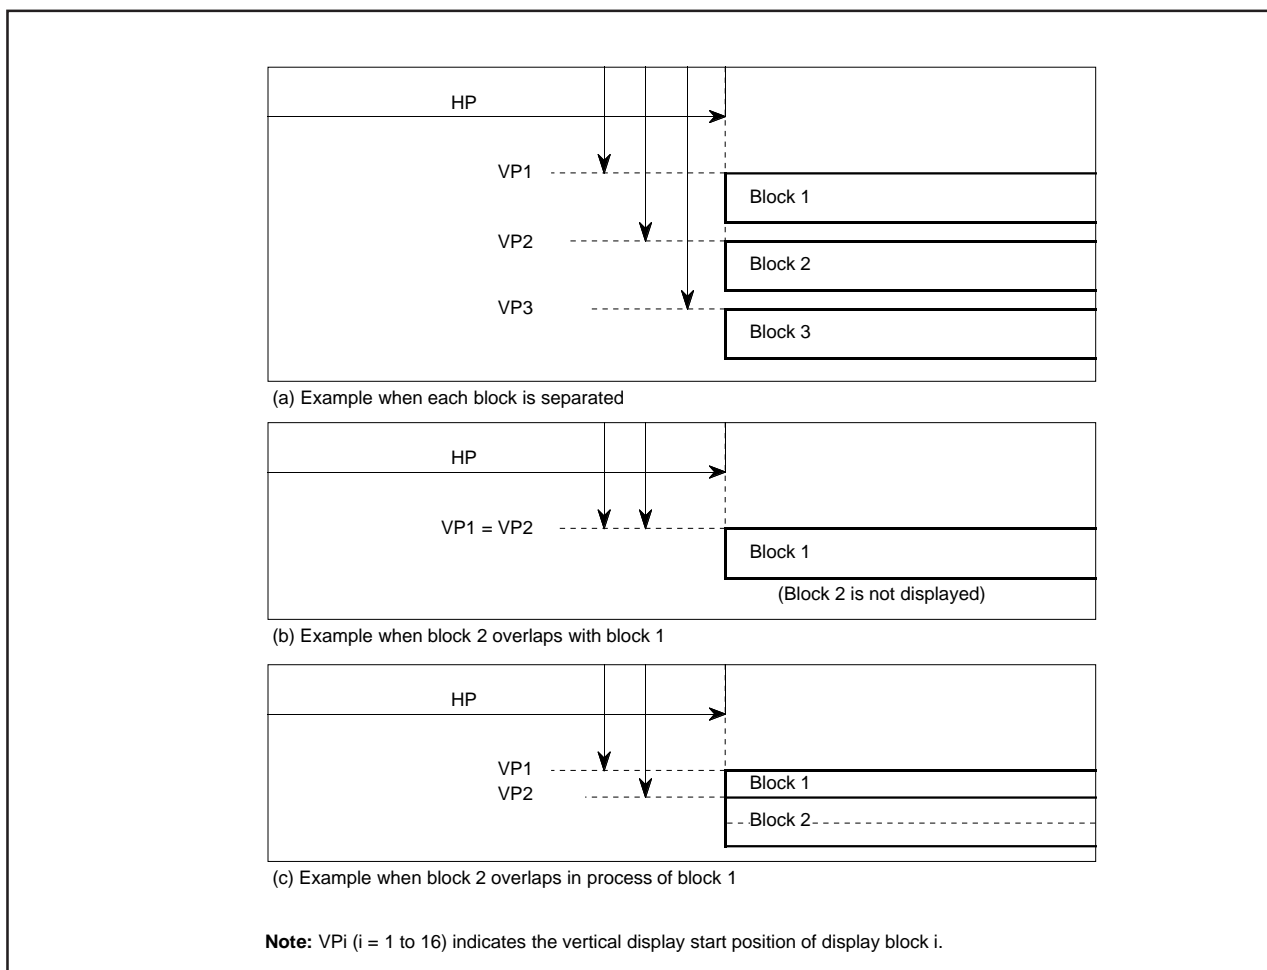

Figure 2.16.8 Display position
- When the display position is overlapped with another block in the same layer (Figure 2.16.8 (b)), a low block number (1 to 16) is displayed on the front.
- When another block display position appears while one block is displayed in the same layer (Figure 2.16.8 (c)), the block with a larger set value as the vertical display start position is displayed. However, do not display block with the dot size of 2Tc X 2H or 3Tc X 3H during display period (\*) of another block.